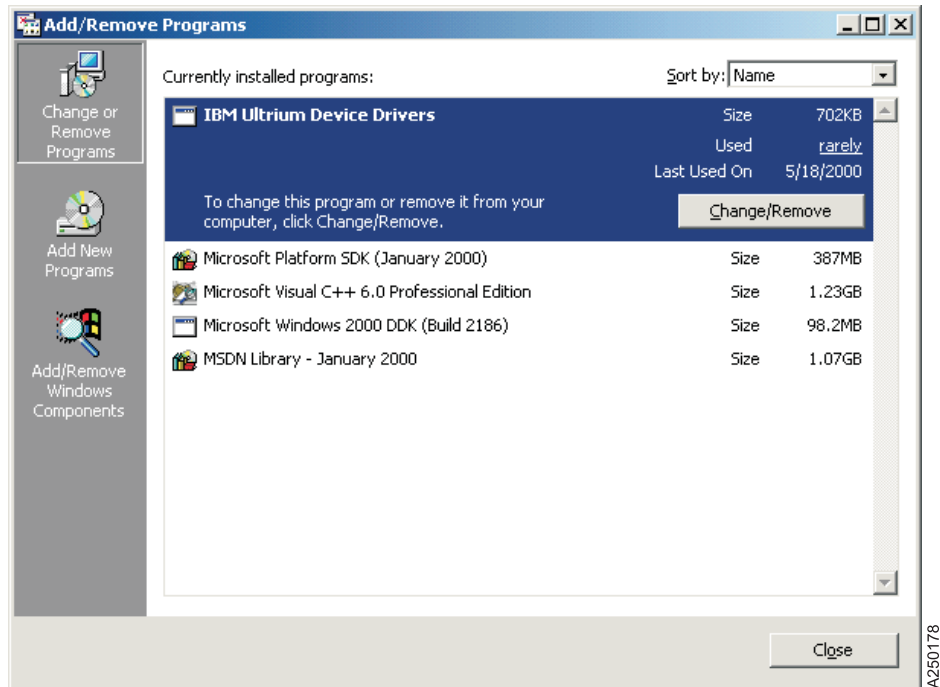

Figure 46. Add/Remove Programs Menu
8. Select **IBM Ultrium Device Drivers**, then click Change/Remove. See Figure 46.